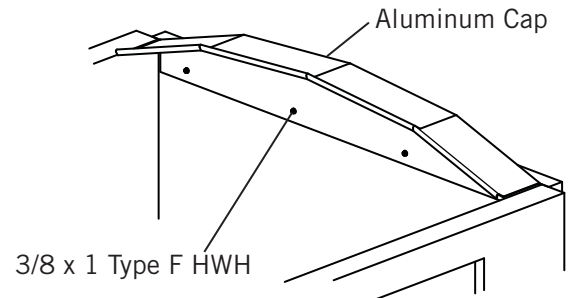

Figure 20
1) Figure 20. Position aluminum rear cap centered on inside of tailgate with the bottom of the trough even with the side walls.